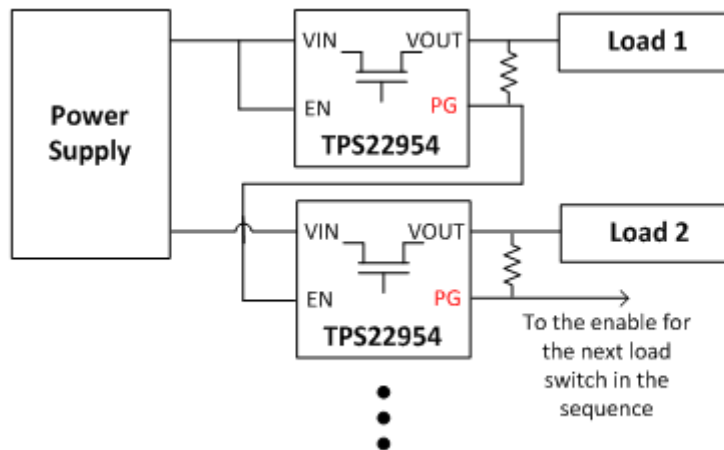

Figure 3. Power sequencing with no GPIO signals needed
Some load switches even have a power-good (PG) signal that indicates when the output has fully turned on. By tying the PG signal to the enable of the next load switch in the sequence, power sequencing only requires one GPIO signal for all of the power rails. Figure 3 shows this configuration.